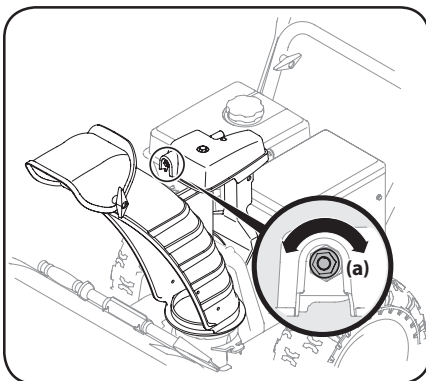

Figure 4-13
1. To increase preload, tighten hex nut (a) clockwise in $\frac{1}{4}$ turn intervals. The chute control rod will need to be held stationary when tightening the nut. See Figure 4-13.